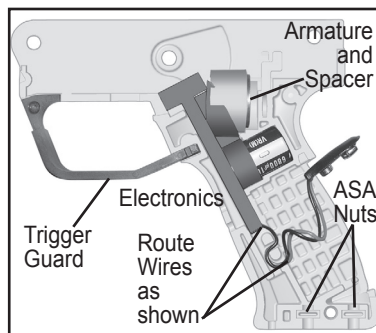

Figure 22: Electronics in lower Receiver
1. Remove the Air Supply Adapter (ASA) bolts. Remove three Screws (32) and one Screw (34) to separate the E-Grip Receiver halves.
3. For reassembly, make sure the Trigger Guard, 2 ASA nuts, and Electronics (with Spacer and Armature in place) are positioned in the right grip half as shown (Figure 22).
5. Position battery wires around the posts as shown (Figure 22) so wires are not pinched or sheared when the left Receiver half is replaced.